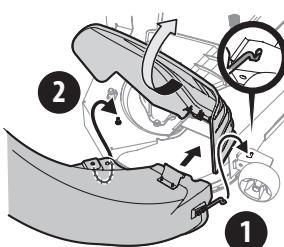

Figure 33
4. Insert the end of the discharge chute elbow (1) into the hole provided in the deck wheel mount as shown in the inset of Figure 33.
5. Pivot the discharge chute rearward until the hole in the discharge chute elbow aligns with the pin on the deck adapter. Move the discharge elbow down onto that pin as shown in (2) of Figure 33.